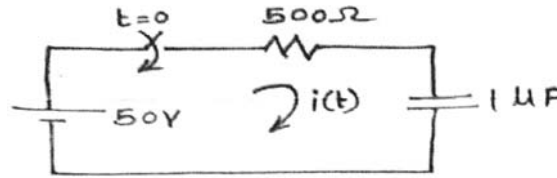

Fig. 1
- b)** In the network shown in Fig. 1, switch is closed at $t = 0$. Before closing the switch capacitor was in uncharged state. Find the values of $i(0^+)$, $\frac{di(0^+)}{dt}$, $\frac{d^2i(0^+)}{dt^2}$. [6]